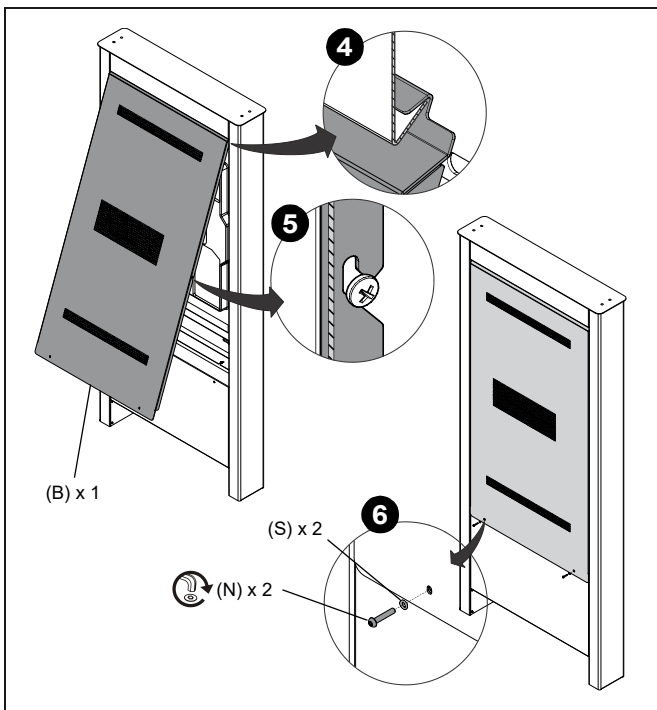

Figure 18
4. Hook the top of the rear bezel (B) onto the edge along the inside of the kiosk frame. (See Figure 18)
5. Carefully rotate the bottom edge of the bezel down, making sure the cutouts on both sides fit around the exposed screw heads in the sides of the kiosk frame. (See Figure 18)
6. Position rear bezel (B) flat against the kiosk frame and install two 10-24 x 1" screws (N) and O-rings (S) through the holes along the bottom edge of the bezel. (See Figure 18)